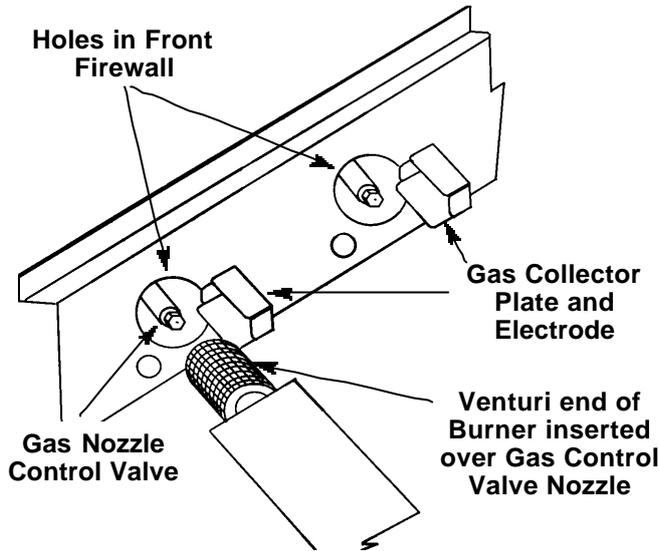

FIG. 6A
•Remove plastic covering from Burners(3) and remove Cotter Pins(3) from Burner Peg.
•Fit venturi end of Burner through hole in the inside firewall of Body (behind Control Panel) and onto Gas Control Valve Nozzle (FIG. 6A.) Be careful not to bend or force Gas Collector Plates.